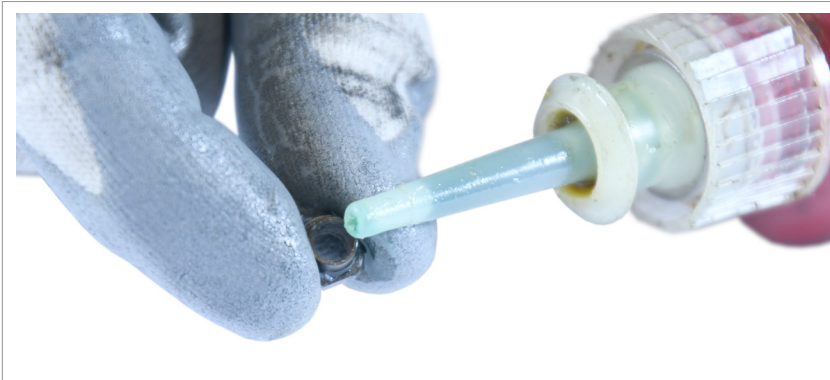

Fig.6
5) Apply “Loctite 2701” (Fig. 6) to the jockey cage fixing nut.